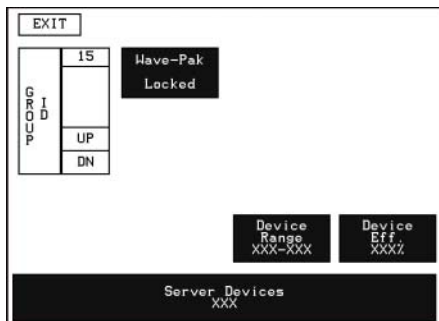

FIG. 4 ViewPoint wireless settings page
4. Press WIRELESS SETTINGS to open the page shown in FIG. 4.